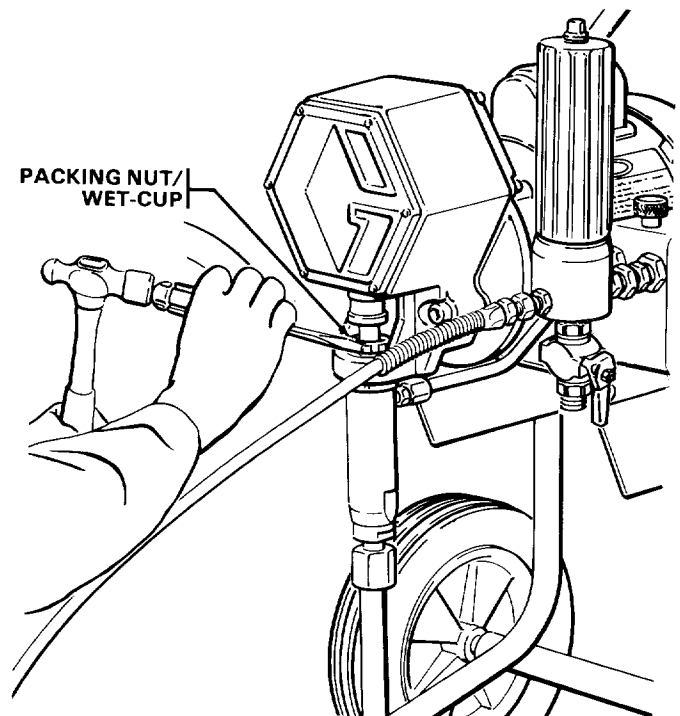

Fig 8
- Check the packing nut/wet-cup daily.** First follow the Pressure Relief Procedure Warning on page 10. Be sure the wet-cup is 1/3 full of TSL at all times to help prevent material build up on the piston rod and premature wear of packings. The packing nut should be tight enough to stop leakage, but no tighter. Overtightening may cause binding and excessive packing wear. Use a screwdriver and light hammer to adjust the nut. See Fig 8.